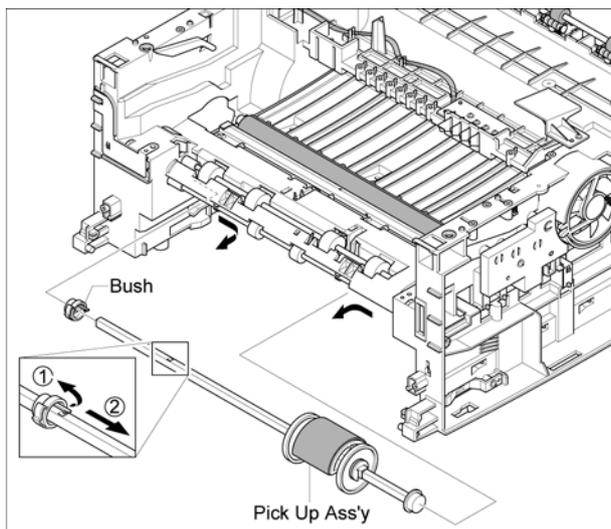

Figure 2
- Release the notch attached to the Bush, then slide the Pickup Assembly from right to left, Figure 2.